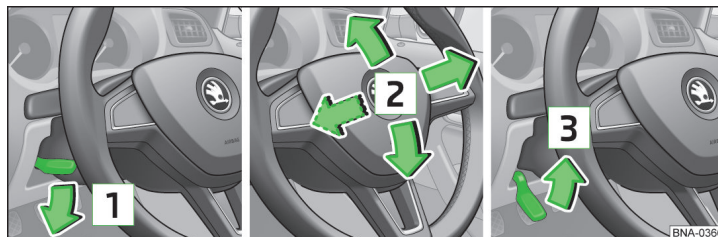

Fig. 2 Setting the steering wheel position
- Swivel the safety lever underneath the steering wheel in the direction of arrow 1 » fig. 2.